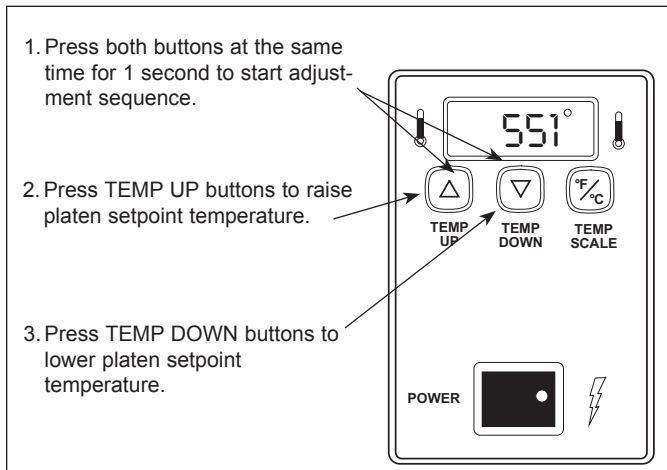

Figure 5. Adjusting Platen Heater Setpoint Temperature
2. Press and hold both TEMP UP and TEMP DOWN buttons for over 1 second until the display flashes the Platen setpoint temperature, then release (Figure 5).